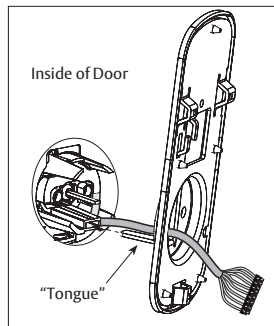

Figure 4A
4. Holding the outside escutcheon flush to the door, positioning the inside mounting plate by first routing the cable and connector through the mounting plate's 1/2" hole, then inserting the mounting plate "tongue" into the bottom slot of the outside escutcheon. See (Fig. 4A).